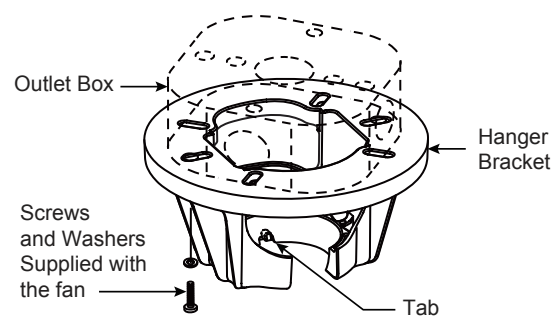
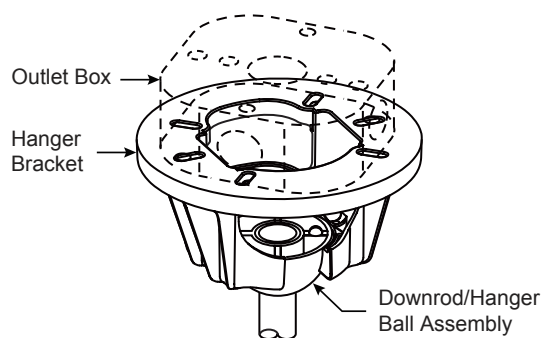

Figure 3
Figure 4
NOTE: Outlet box screws pass through slotted holes of the hanger bracket. (Figure 3)
- ☐ 3. Carefully lift the fan and seat the downrod/hanger ball assembly onto the hanger bracket that was just attached to the outlet box. (Figure 4) Be sure the groove in the ball is lined up with tab on the hanger bracket. (Figure 3)